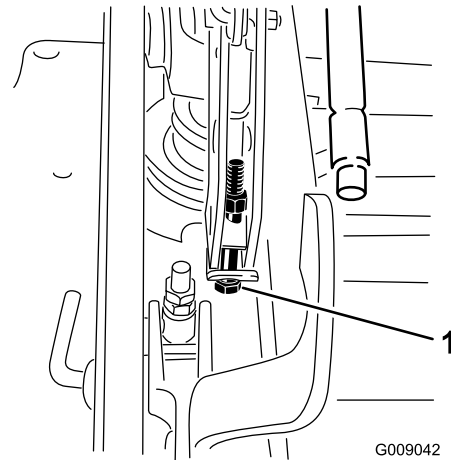

Figure 103
12. If the deck is too low, tighten the single-point-adjustment bolt by rotating it clockwise. If the deck is too high, loosen the single-point-adjustment bolt by rotating it counterclockwise (Figure 103).